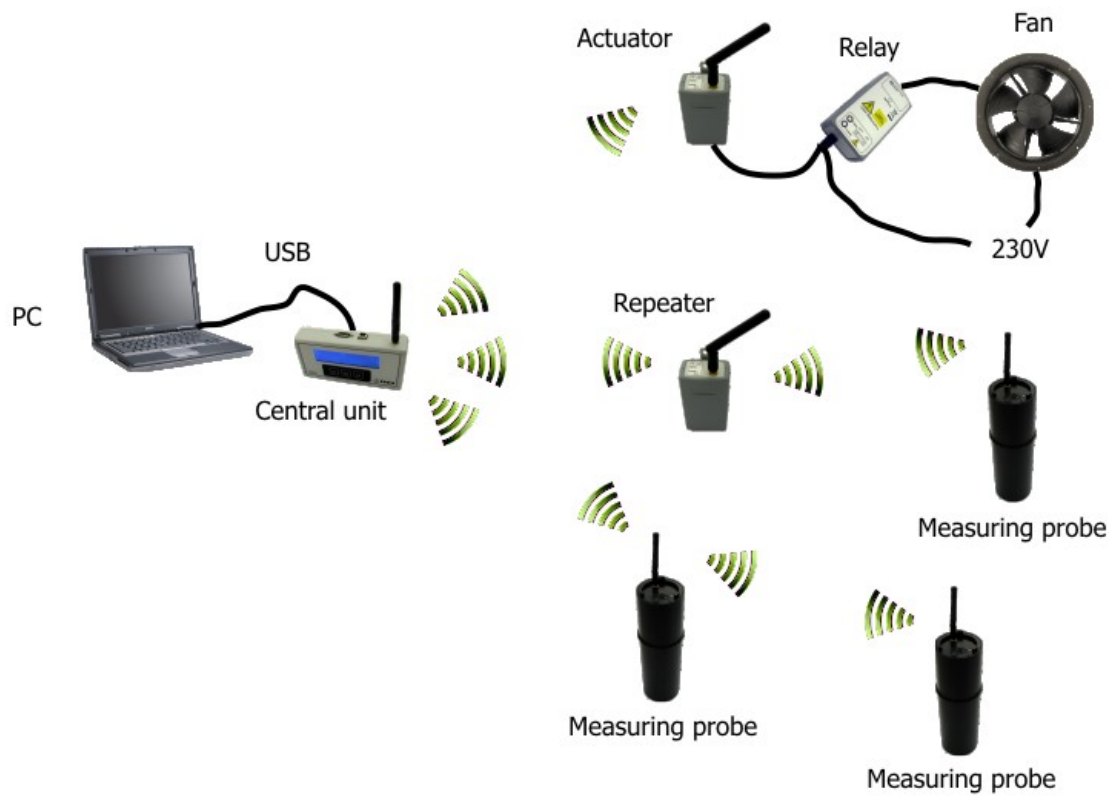

Figure 2 - Terminal in TERA System for Regulating Radon Concentrations
- B) TERA System for Regulating Radon Concentrations (Figure 2)